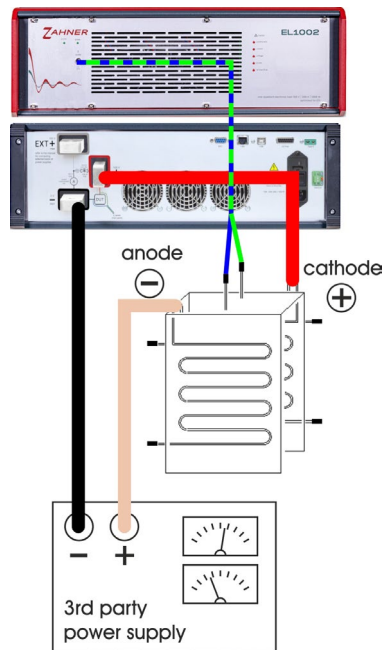

Fig. 26: EL1002 with serial supply as Zero-Volt Option
Fig. 26 shows the voltage drop across the resistance (R) of the system. There are some additional resistances within the EL1002 leading to further voltage drops. The Fig. 26a illustrates this two-step voltage drop at very high currents. Since in this case the voltage drop is larger than the potential of the fuel cell, the set current cannot be achieved by the EL1002. To compensate for the voltage drop at high currents, a small additional potential is provided by the external power supply to the fuel cell